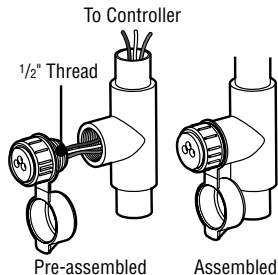

Figure 1
2. Feed the red, white, and blue wires of the SmartPort through the base of the "Tee" and into the controller wiring compartment as shown in Figure 1.
3. Screw the SmartPort housing into the "Tee" (or other fitting) as shown in Figure 1.